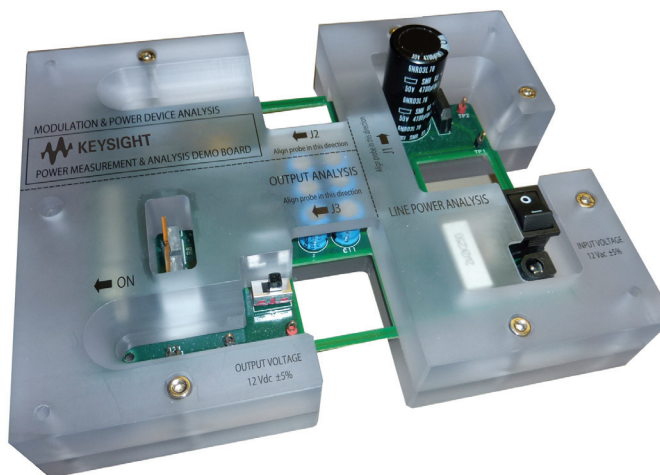

Figure 1: Keysight's Switch Mode Power Supply Measurements Training Kit
- Your Switch Mode Power Supply (SMPS) or Keysight's SMPS Measurements Training Kit (Figure 1)